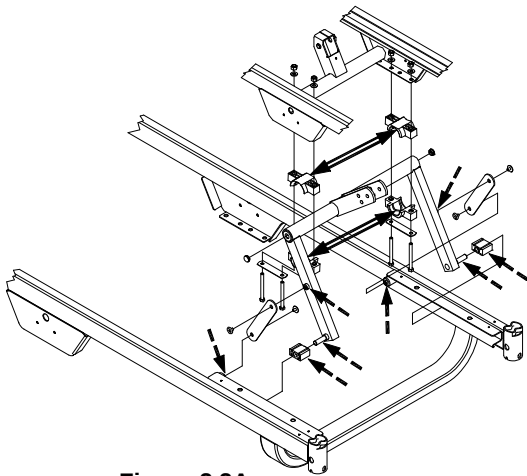

Figure 2.2A
- ☐ The Hi-lo lever nylon sliders and their shafts (see fig. 2.2A, page 15). Check that grease is still present along the course of the sliders (inner surfaces (bottom and side) of the rail).
- ☐ Lower mounting points (see fig. 2.2A, page 15) of the lifting system stabilizer.
- ☐ Inside of the Hi-lo lever moulded bearings (see fig. 2.2A, page 15).